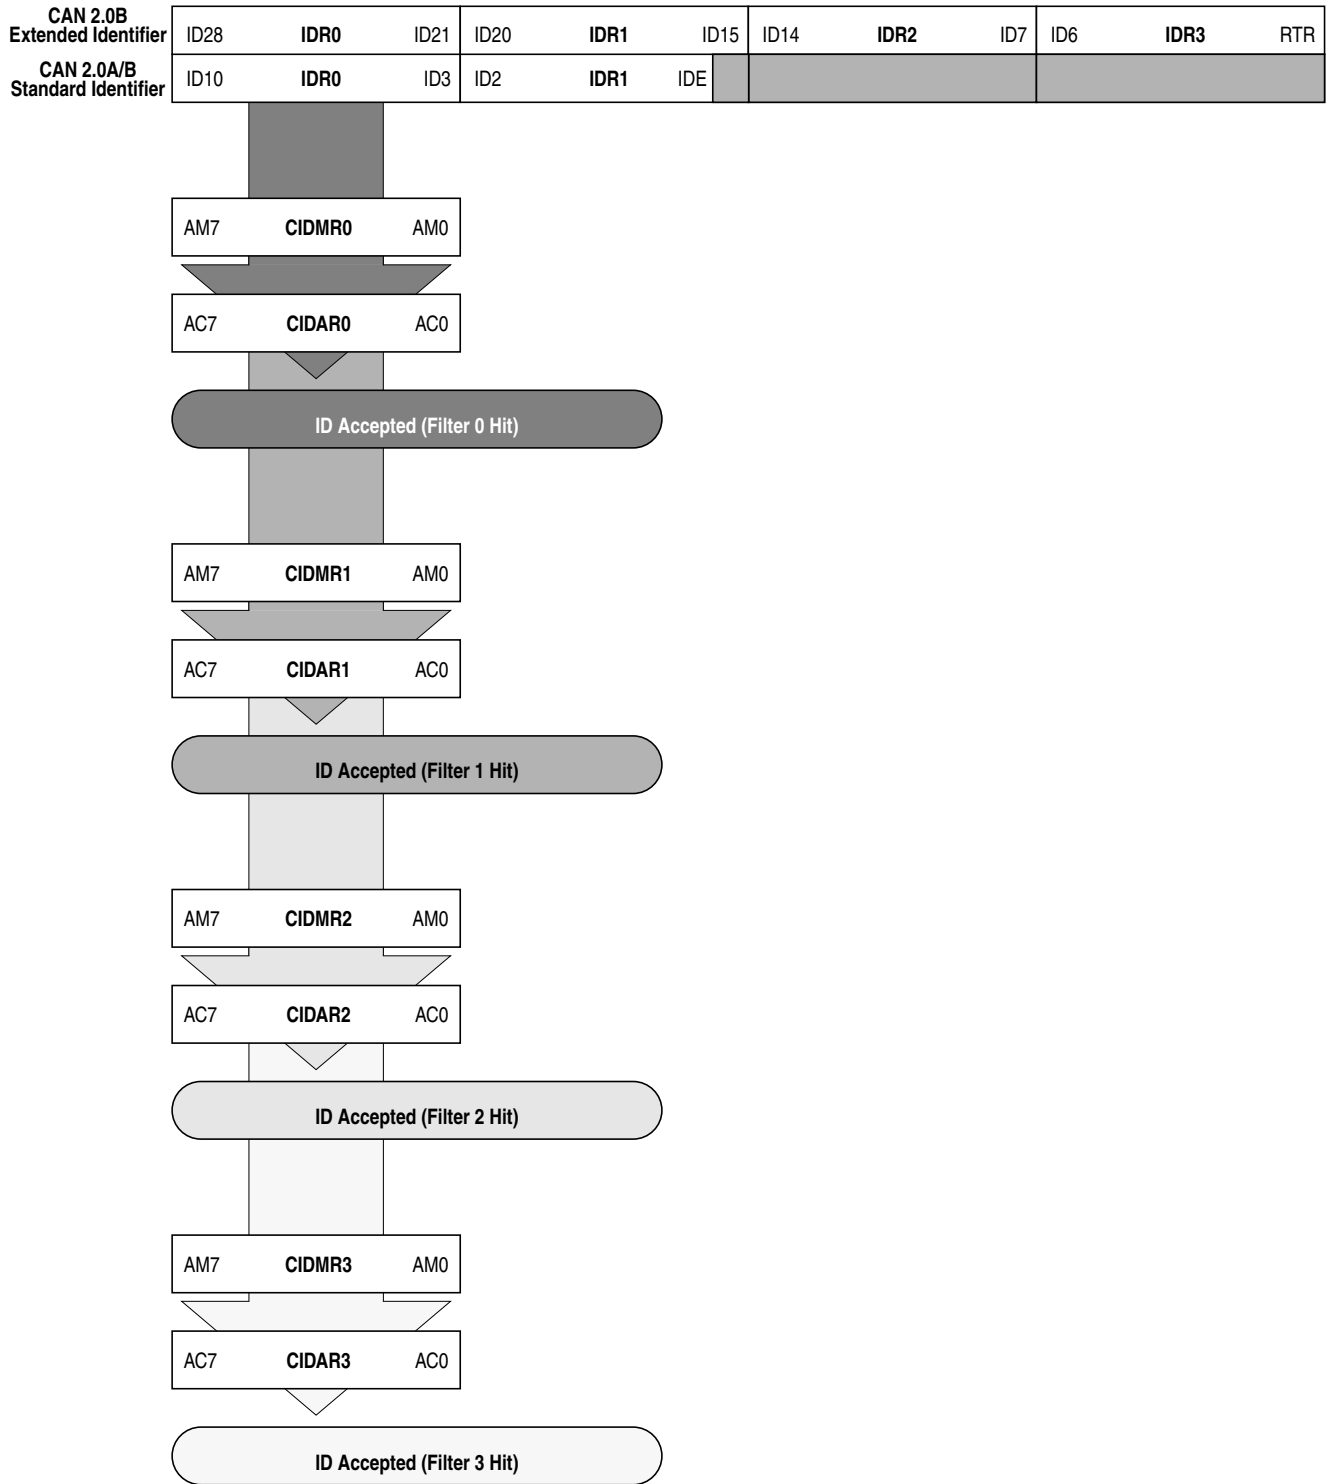

Figure 13-42. 8-bit Maskable Identifier Acceptance Filters
- Eight identifier acceptance filters, each to be applied to the first 8 bits of the identifier. This mode implements eight independent filters for the first 8 bits of a CAN 2.0A/B compliant standard identifier or a CAN 2.0B compliant extended identifier. Figure 13-42 shows how the first 32-bit filter bank (CANIDAR0–CANIDAR3, CANIDMR0–CANIDMR3) produces filter 0 to 3 hits. Similarly, the second filter bank (CANIDAR4–CANIDAR7, CANIDMR4–CANIDMR7) produces filter 4 to 7 hits.